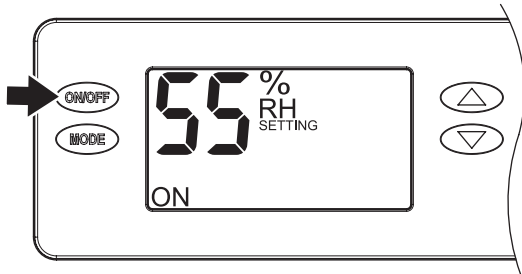

Figure 2: Turning Dehumidifier On
- Use the ON/OFF Button (*see Figure 2*) on the control panel to turn the dehumidifier ON. **The first press of a button will turn on the display light**, so if the display was dark, you might need to press it again. Once ON, the display will show the current dehumidifier setting.